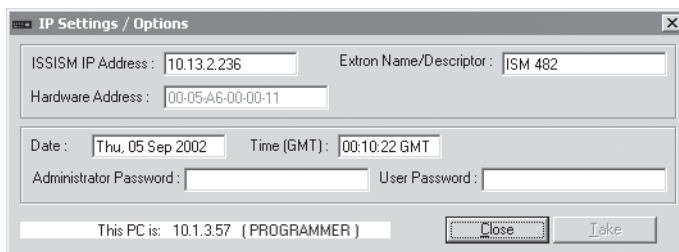

Figure 5-6 — Control program IP Setting/Options window
The IP settings/options screen (figure 5-6 on page 5-5) provides a location for observing and, if connected via the RS-232 link or if logged on via the Ethernet port as an administrator, editing settings unique to the Ethernet interface. None of the fields on this screen can be edited while logged on as a user. See *System Configuration Page* in chapter 6, *Ethernet Operation*, for details on the contents of these fields. See appendix A, *Ethernet Connection*, for other basic information about Internet protocol.
- If desired, on the task bar, click *Tools > IP Options* to set the switcher's IP parameters in the IP Settings/Options window (figure 5-6).